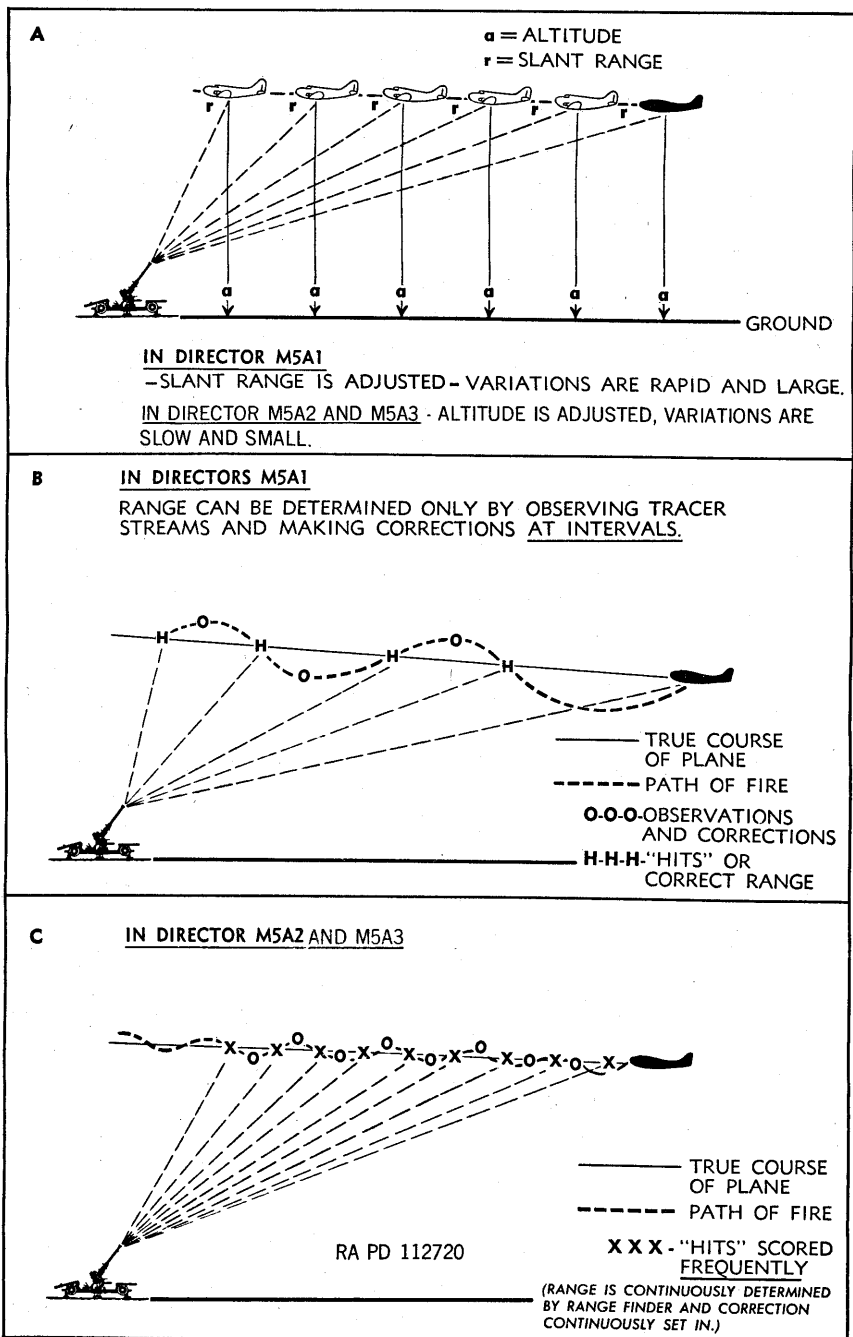

Figure 6. Advantages of directors M5A2 and M5A3.
c. DIFFERENCE IN MODELS. (1) Directors M5A1, M5A2, and M5A3 are intended for use with the remote control system M15 and are therefore designed for fully self-synchronous operation of the remote control system.
(2) Director M5A1 is mounted on tripod M7 or M19; directors M5A2 and M5A3 are each mounted on a tripod M21. Tripods M7 and M19 are similar. The difference is that tripod M7 is shipped assembled and cannot be disassembled in the field whereas tripod M19 is shipped disassembled and may be readily assembled in the field. Tripod M21 differs from tripod M19 in stability and its method for locking the director on the tripod. Increased stability is provided by a larger foot plate. The tripod plungers are grooved to permit the locking of the director into the tripod.
(3) The directors M5A2 and M5A3 differ from director M5A1, principally in the method of establishing and introducing slant range into the director computing mechanisms. In the earlier type directors, slant range is introduced by estimating range and rotating the range handwheel. In this model the range setter observes the target, and estimates and sets the range. The trackers follow the target by means of the telescopes. The range setter corrects the estimated range by noting the path of tracers fired toward the target. In directors M5A2 and M5A3, the range spotter brings the target into the field of view of the range finder. The range finder determines the exact range, which is automatically fed into the director computing mechanisms (fig. 6) by means of the servo systems. When the range finder is inoperative for any reason, these models can be operated in the same manner as director M5A1, by installing an emergency range handwheel and estimating the range. The director M5A1 makes all computations by mechanical means such as differentials, cams, gears,